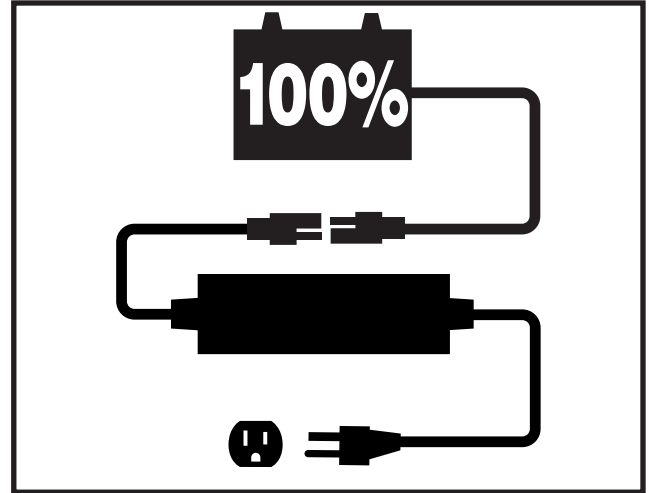

Figure 22. Battery Charging
2. Plug the charger cord into the mating socket located on the bottom of the battery case, then connect the charger cord to a standard electrical outlet. See figure 22.